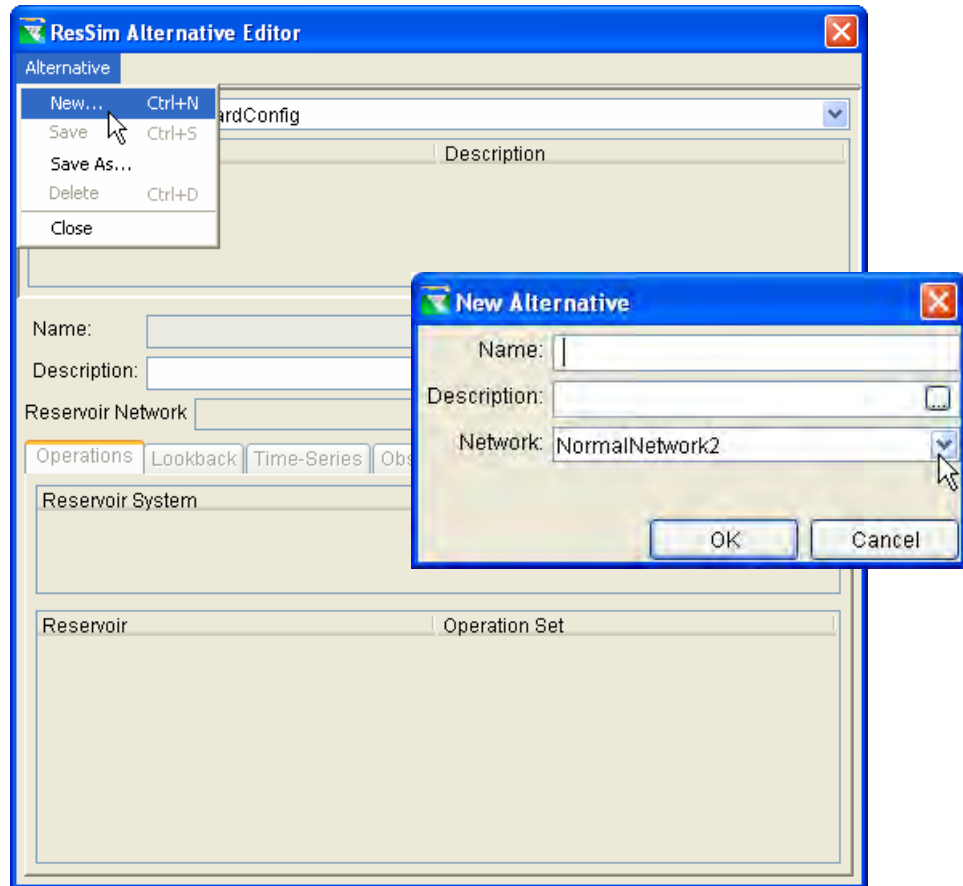

Figure 27 – Alternative Editor, Create New Alternative
2. In the Alternative editor, ensure that the appropriate **Configuration** name is displayed from the list of available configurations. Then, from the **Alternative** menu, select **New** (as shown in Figure 27).